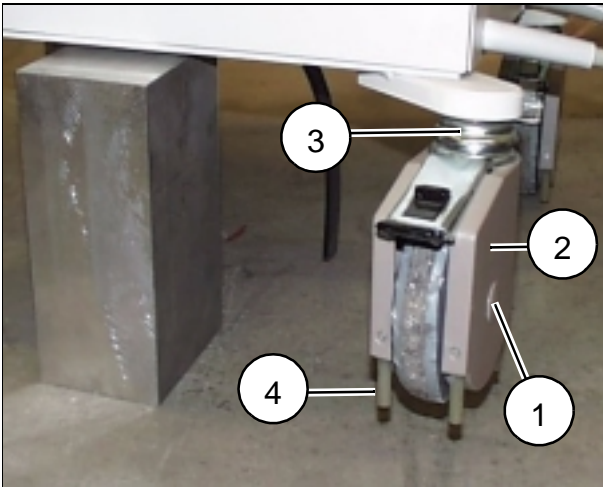

Fig. 1
- Remove the axle (1/Fig. 1).
- Remove the lateral covering from the castor (2/Fig. 1).
- Unscrew the castor mount (3/Fig. 1).
- Attach the cable deflectors to the castor covering (4/Fig. 1).